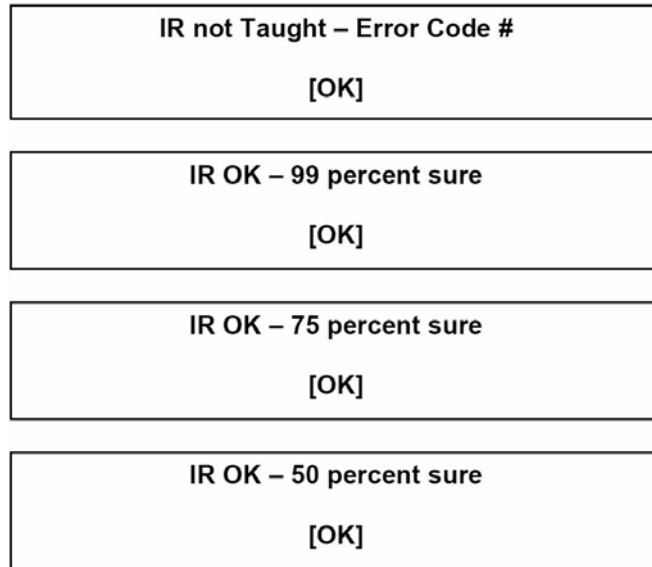

FIG. 29 IR Commands - Messages
5. The Programming screen will display one of the following messages, indicating the accuracy of the IR code received (FIG. 29):